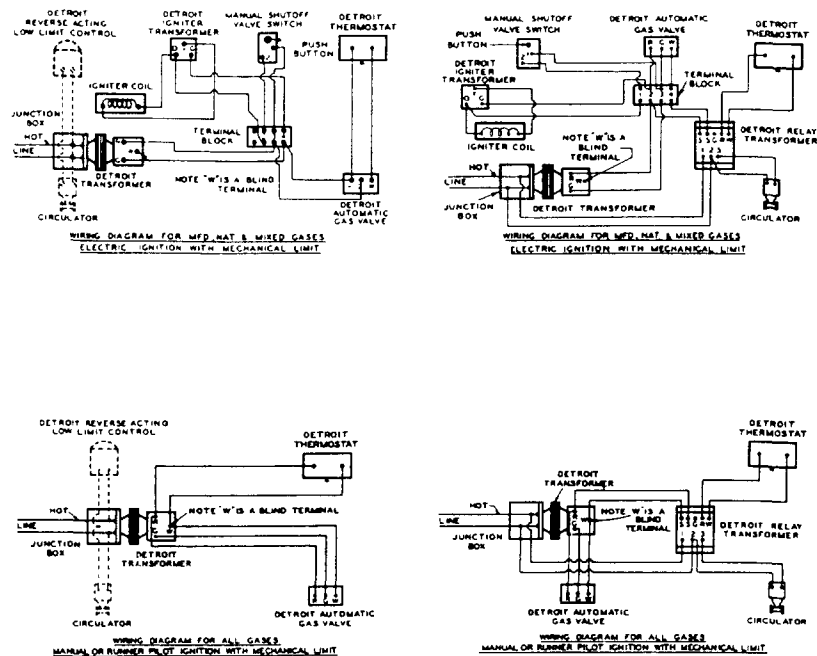

FIG. 10—Wiring Diagrams
4. Make wiring connections according to wiring diagram applying to controls used. (See Fig. 10.) Install thermostat and connect as indicated.